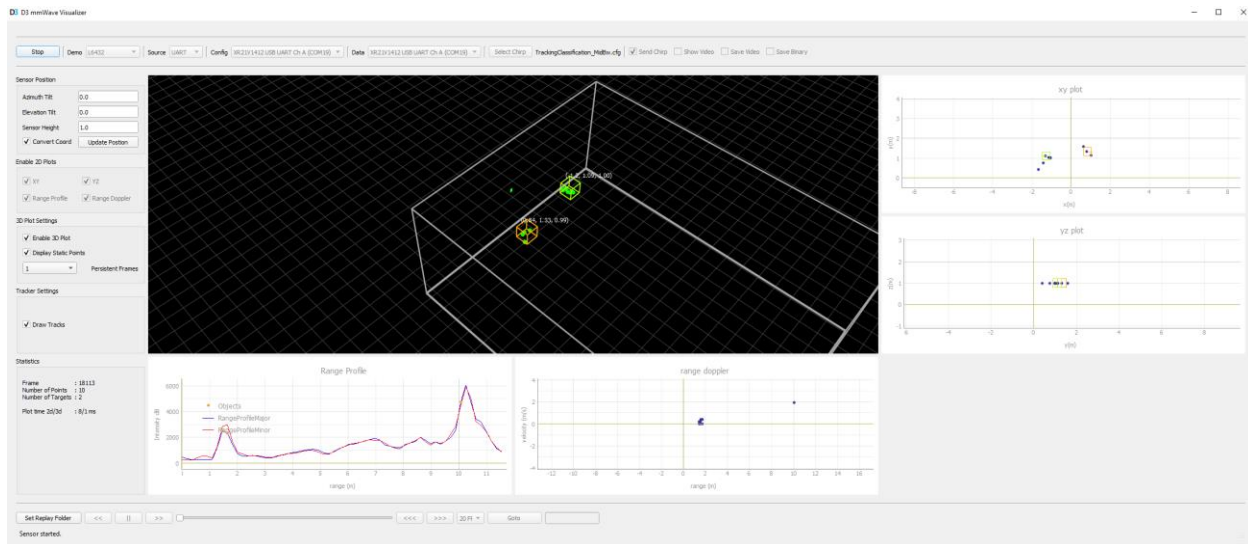

Figure 11. D3 Visualizer Data Display
8. Observe the output and observe the dynamic returns displayed as shown in Figure 11.